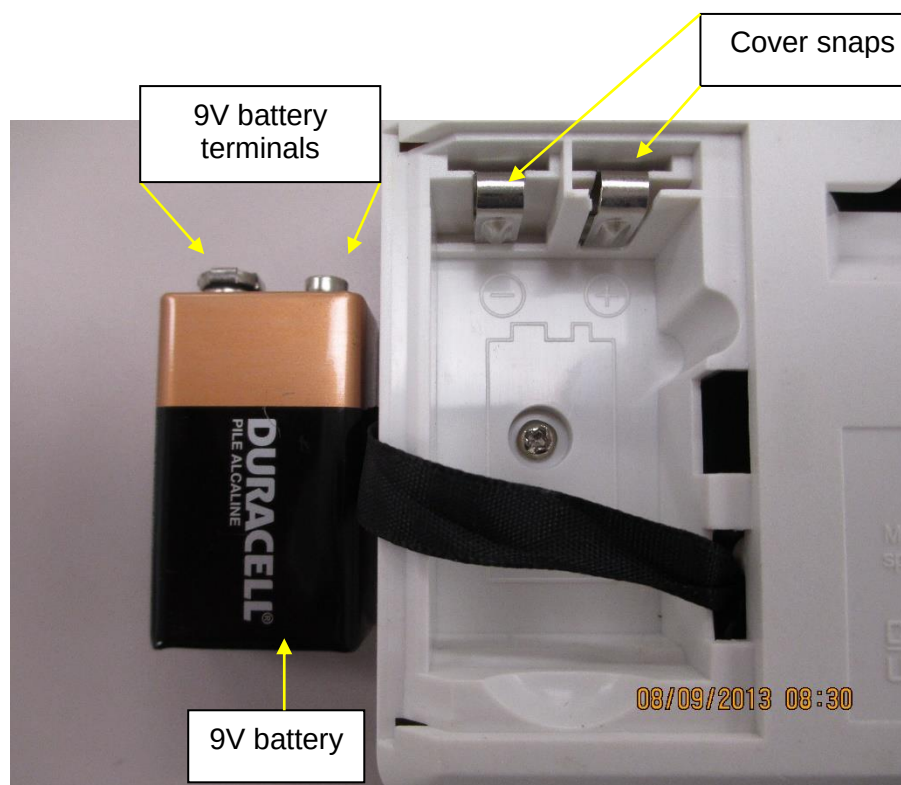

Figure 6
3. Replace or install the battery (Figure 6 on page 13).